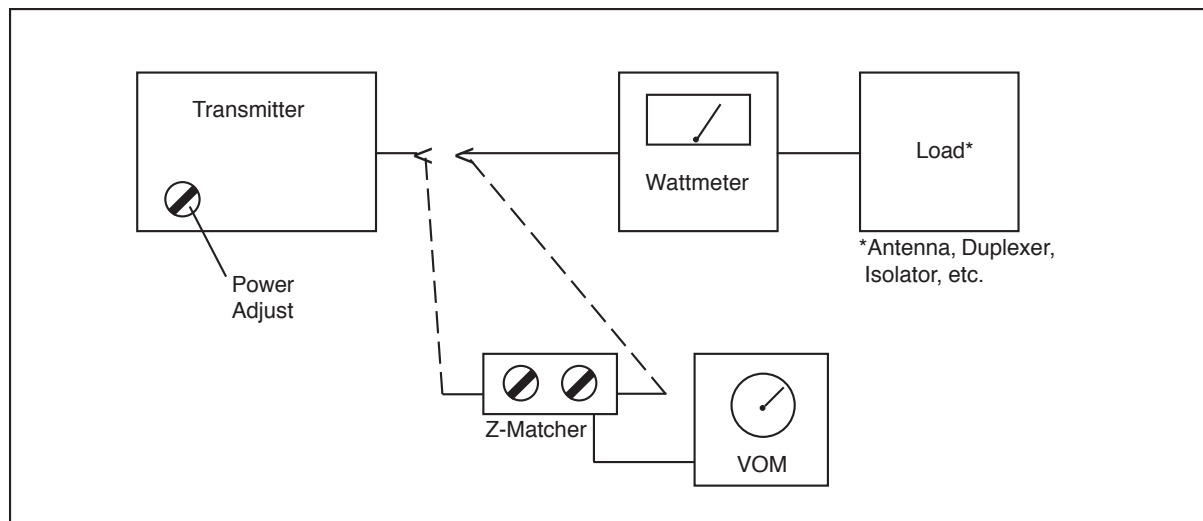

Figure 1 - Block Diagram
1. Using a 50-ohm coaxial cable, connect the transmitter to a wattmeter and a load as shown in Figure 1.